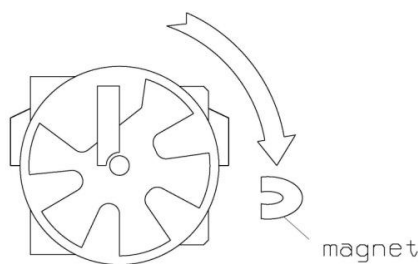

FIGURE 1a
- a. To trip the indicator (rotate the visible disk back), pass the magnet slowly along the side of the clear disk window (see Figure 1a). A single pass in a clockwise direction is recommended.